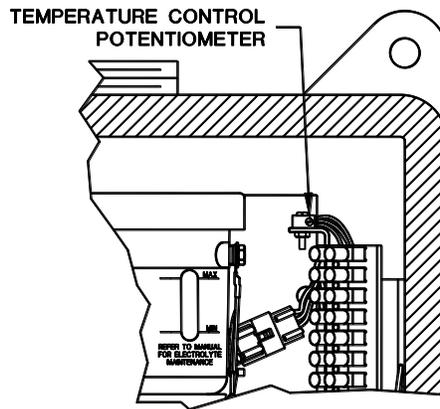

Figure 25: Temperature Control in R7 Enclosure
4) Locate the temperature control potentiometer on the circuit board in the enclosure above the terminal strip. See Figure 25. Turn it clockwise to increase the temperature and counter-clockwise to decrease it. After each adjustment re-cover the enclosure and allow at least an hour for it to stabilize at the new temperature.